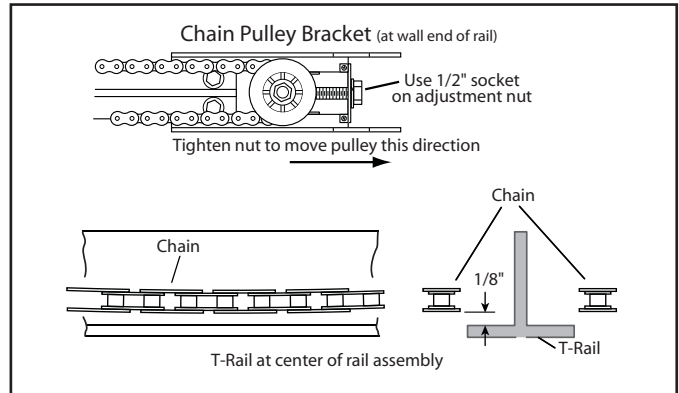

FIG. 1-3 Chain adjustment.
2. Tighten the chain by turning the adjustment nut clockwise. The chain adjustment nut is located in the Chain Pulley Bracket (opposite rail end from the power head) (Fig. 1-3).
3. Tighten chain until chain is approximately 1/8 inch above the base of the rail at midpoint on the rail (Fig. 1-3). Do NOT over tighten chain.
You should have removed all ropes and/or cables (NOT door lift cables) and disabled the door lock already. If you have not, remove all ropes and/or cables and disable garage door lock **NOW** before continuing with installation (Fig. 1-3).